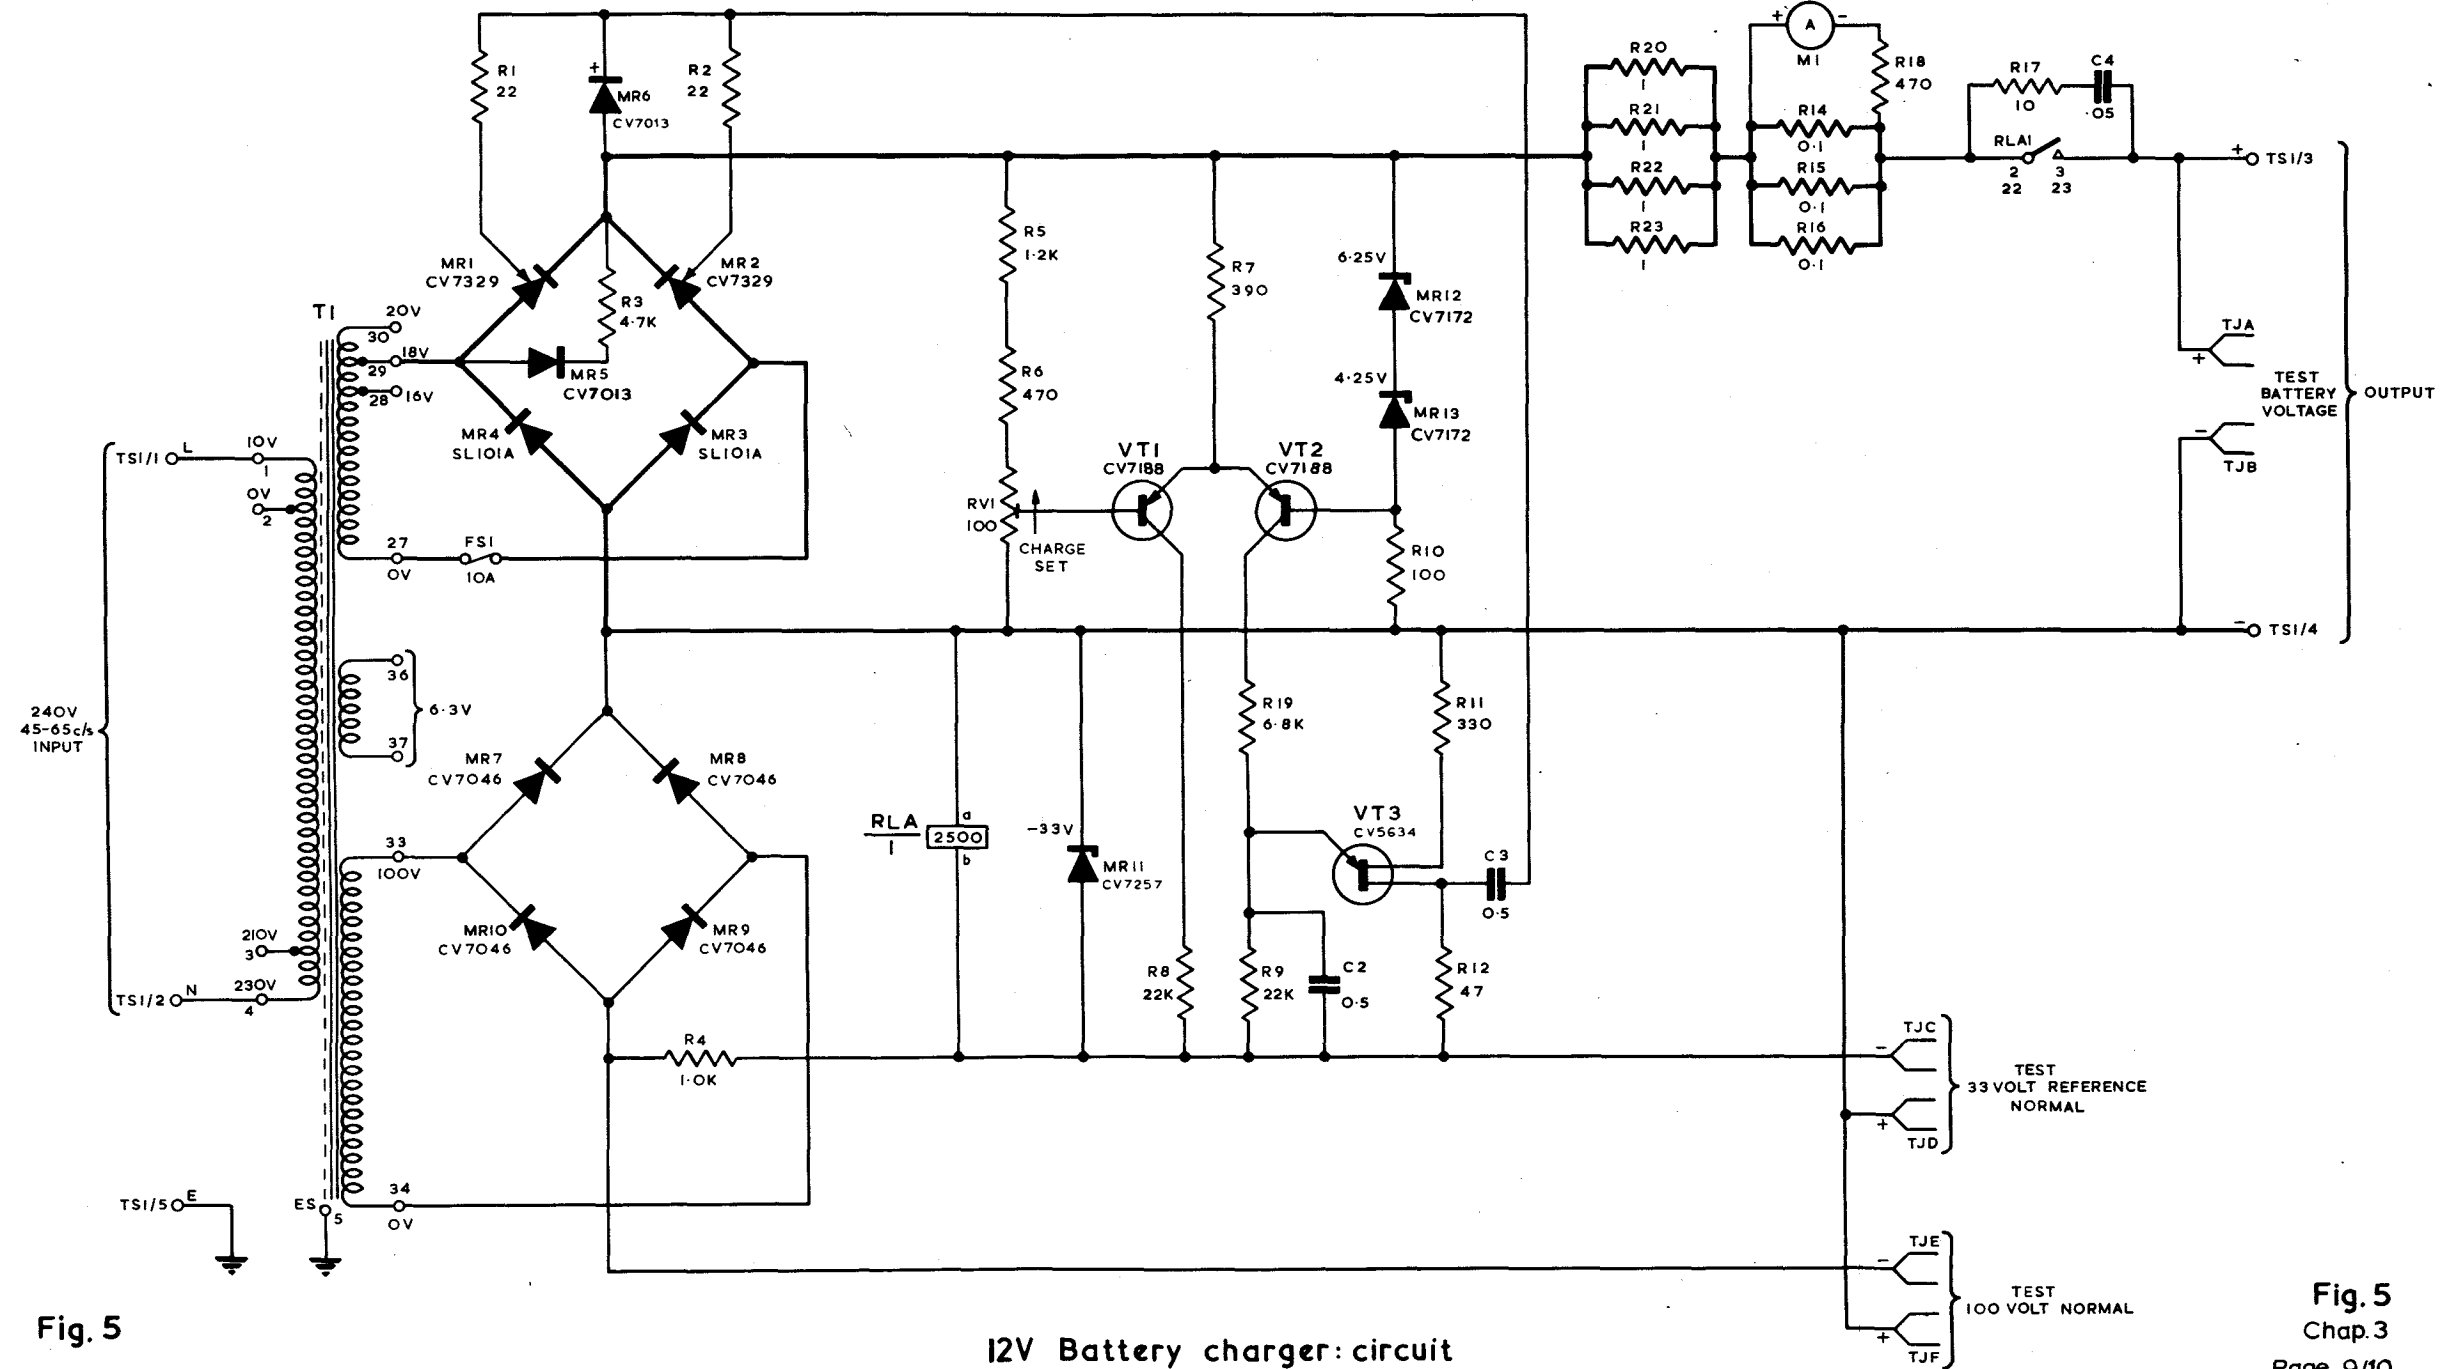

Fig. 5
- 5 The circuit of the battery charger is shown in fig. 5. The unit supplies a charging current, which is regulated by the terminal voltage of the battery.